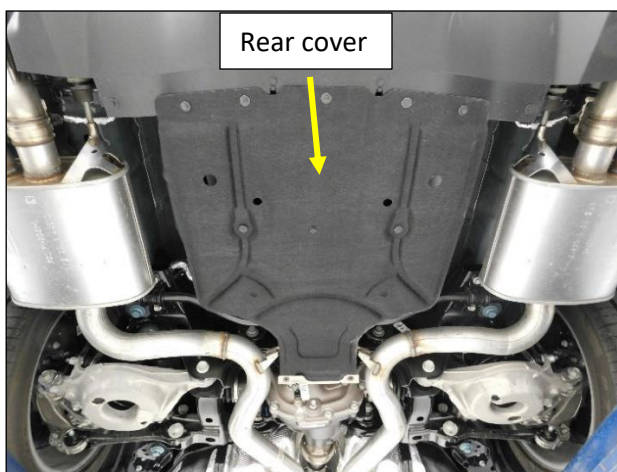
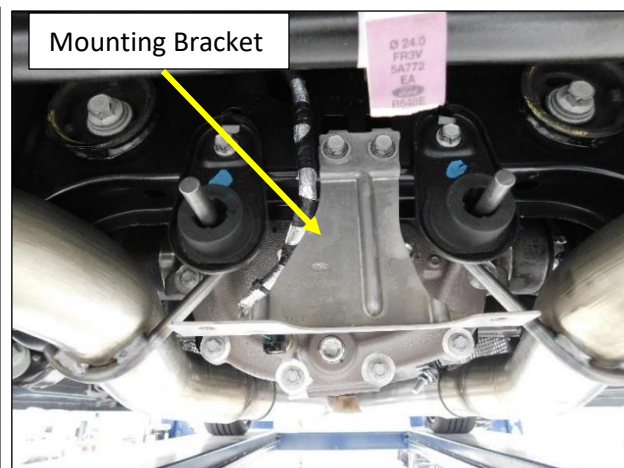

Figure 1
Figure 2
2. Remove the rear cover and mounting bracket, as shown in **Fig. 1 & Fig. 2.**